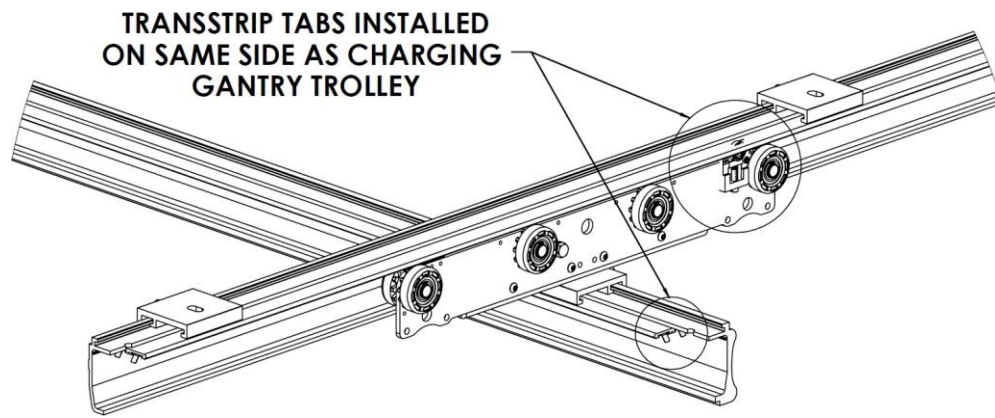

Figure 37: *Traversing Track Mounted to Parallel Track*
9. Hang the traversing track by inserting it into the track brackets on the gantry (Figure 37)
- Make sure the male TransStrip tabs on the traversing track are facing the charging parallel track as shown in Figure 37.